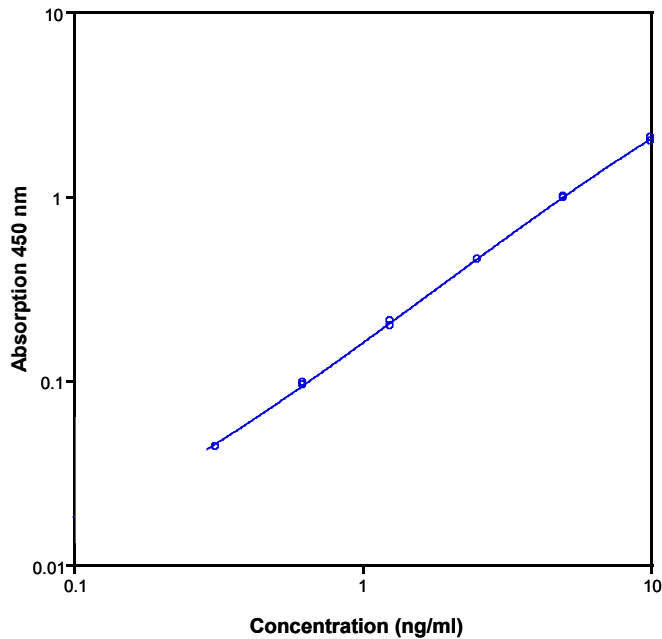

Fig. 7 Representative standard curve for human CD44var (v5) ELISA. Human CD44var (v5) was diluted in serial 2-fold steps in Sample Diluent.
- A representative standard curve is shown in Figure 7.